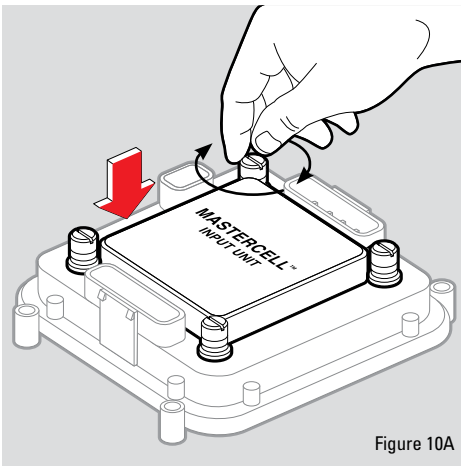
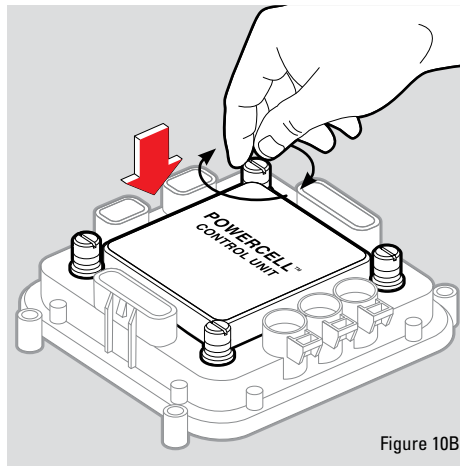

Figure 10A
Figure 10B
Unplug the programming header (A) from the MASTERCELL™ (Figure 10A) or POWERCELL™ unit (Figure 10B).